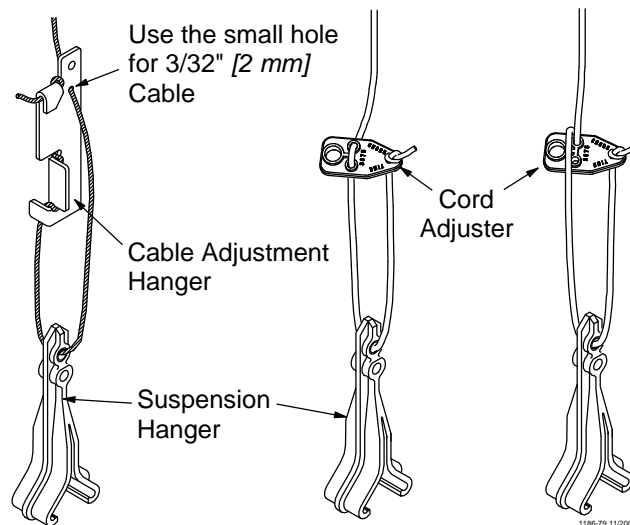

Figure 8. Cable Drop Installation
8. Cable drop installations: Install an adjustment leveler on each drop line. See **Figure 8**.
Cord drop installations: Install a cord adjuster on each drop line. See **Figure 8**.
1. Route the suspension cable through the top hole of the suspension hanger and around the cable adjuster as shown in **"Figure 8."** on page 12.